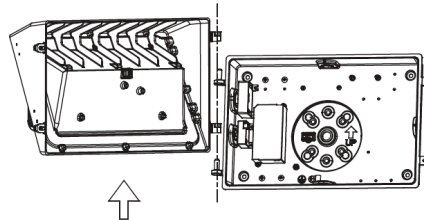

Fig. 1.2
2. Open the fixture, and remove the front cover of the fixture. (Fig. 1.2)